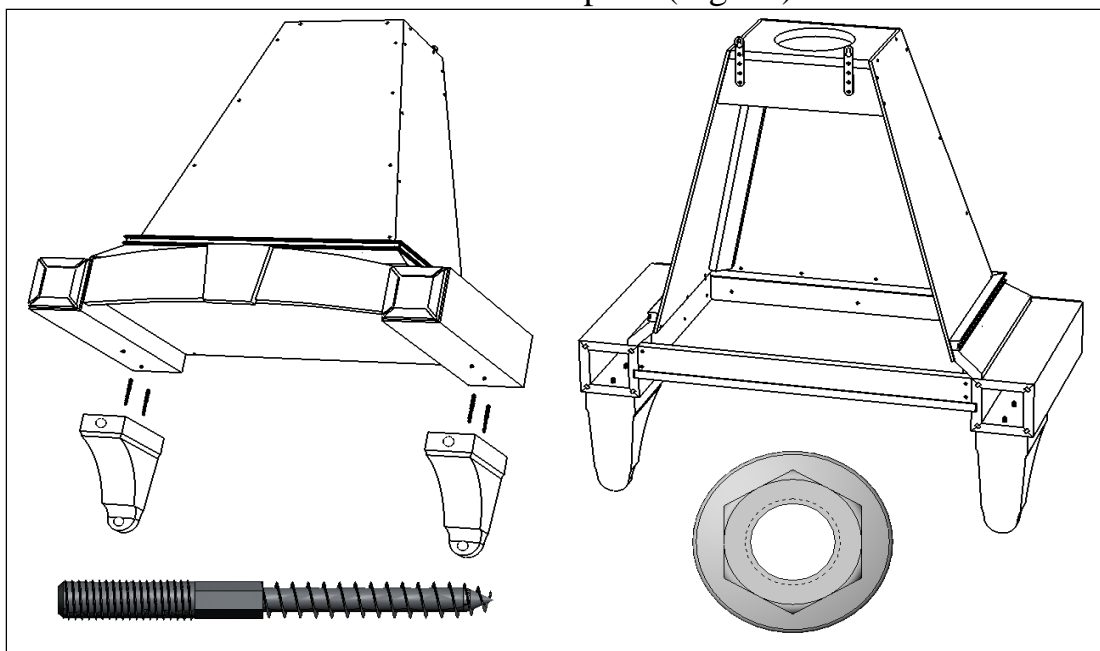

Fig. 22
3. Fixation of struts without a decorative plate (Fig. 22):